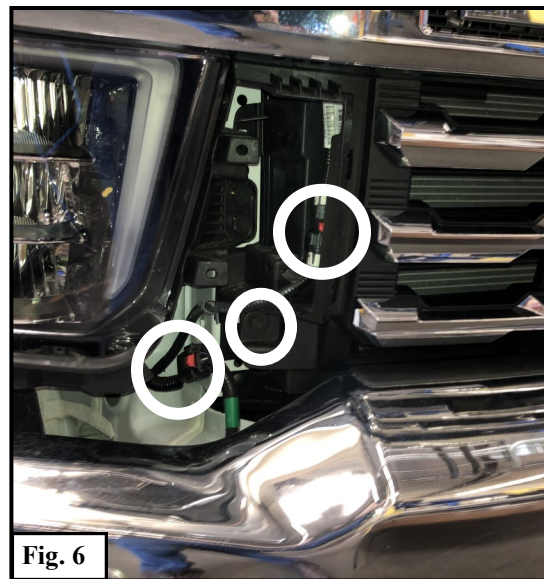

Fig. 6
7. Disconnect any electrical plugs and any bolts still attaching the grill to the vehicle. See **Figure 6**.